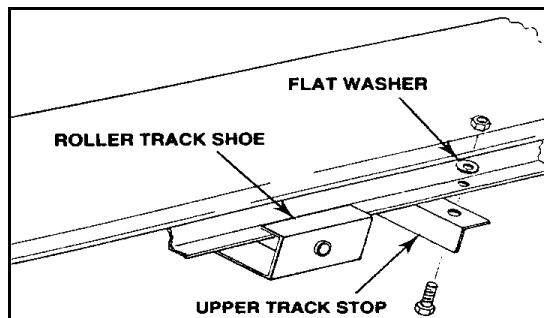

Figure 3.3
2. All augers: slide roller trackshoe onto track. Attach the upper angle-iron trackstop with 7/16" x 1" bolts, heavy flat washers, and locknuts (Figure 3.3).